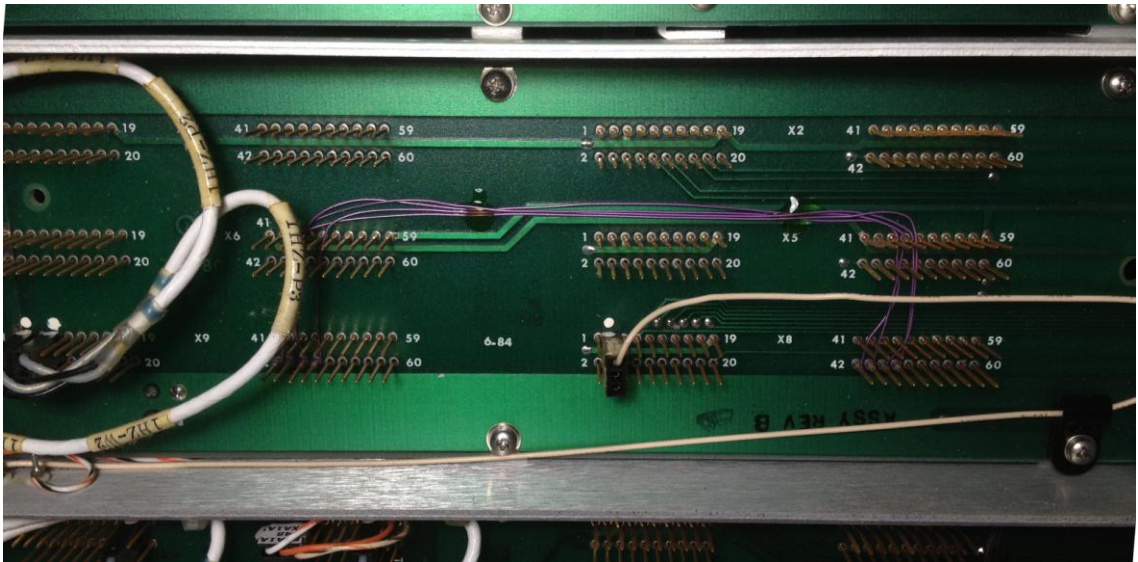

Figure 1a: A6 I/O mainboard of a WJ-8718A 1-Hz resolution receiver (bottom side).
- Figures 1a, 1b and 2 (on this Manual) show the bottom side of the A6 I/O mainboard (on a WJ-8718A and on a WJ-8718A/MFP respectively) with all the above-mentioned modifications already performed, while in Figure 3 is shown the bottom side of a NOS A6 I/O mainboard that had been already Factory set up for installation of the 1-Hz Option.